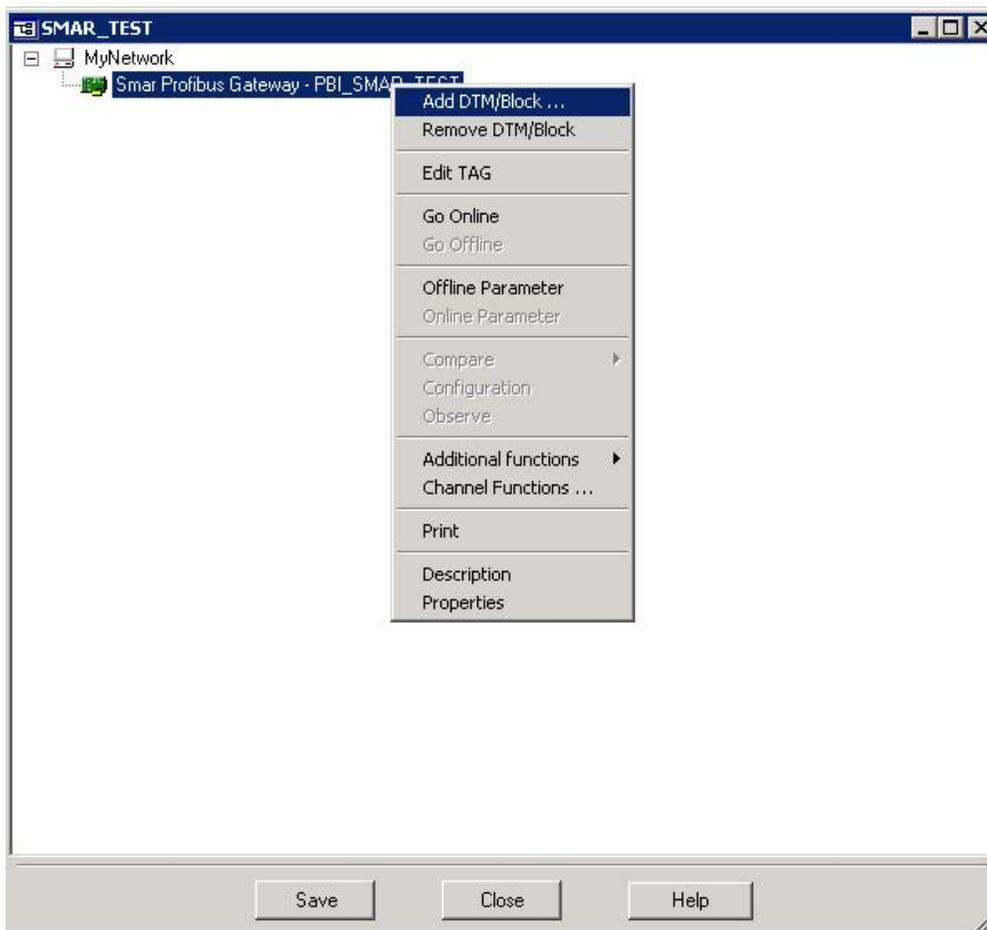
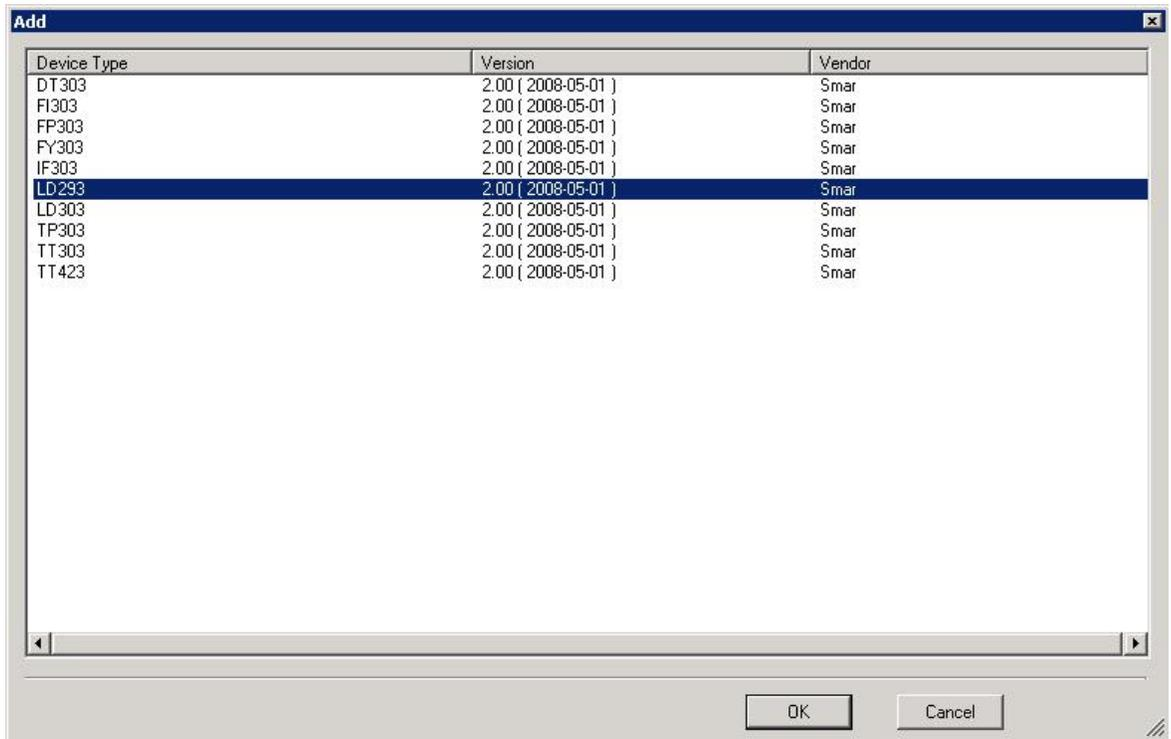

Figure 2.8 – Configuration of AssetView STANDALONE software
Figure 2.9 – Configuration of AssetView STANDALONE software
- 6) After setting the PBI's TAG, it will appear just below “MyNetwork”. The next step is adding the device to be configured. To do so, just right click on PBI-PLUS and choose “Add DTM/Block...” option. See Figure 2.8. Finalize the procedure clicking “OK”. See Figure 2.9.